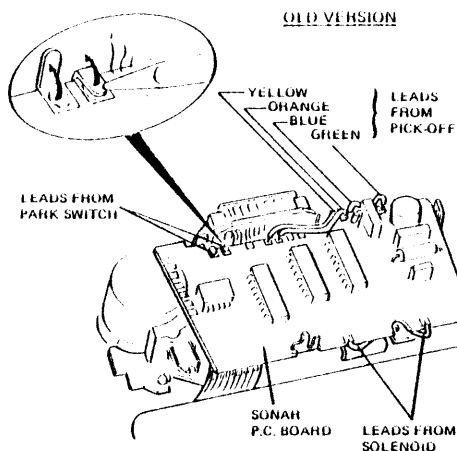

FIGURE 4-26
**NOTE:** Go to Figure 4-26 or 4-27 for disconnecting pick-off leads.
9. To remove clapper solenoid assembly, use midget nut driver (Tool #3517) to loosen cap screw. Assembly falls away. See Figures 4-26 and 4-27 for location of solenoid terminals on P.C. board.